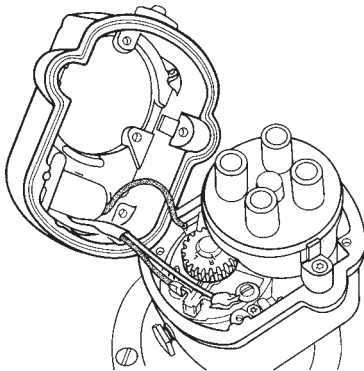

Figure 7.18
- A. Connect wires to tachometer contact points. (See Figure 7.18)